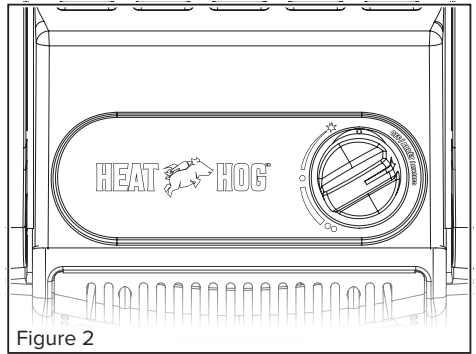

Figure 2
- Before attaching propane make sure Control Knob on heater is in “OFF” position; see Figure 2.
- For **HH-09SNL-A** and **-MA** turn Control Knob counterclockwise to “PILOT” position and depress knob to light; see Figure 2.
- After pilot lights, continue to hold Control Knob down for 30–60 seconds until heating plaques are lit and thermocouple is hot. Release knob. Knob should return to fully extended position; see Figure 2.
- After pilot lights, hold Control Knob down for 30–60 seconds until heating plaques are lit and thermocouple is hot. Release knob. Knob should return to fully extended position; see Figure 2.